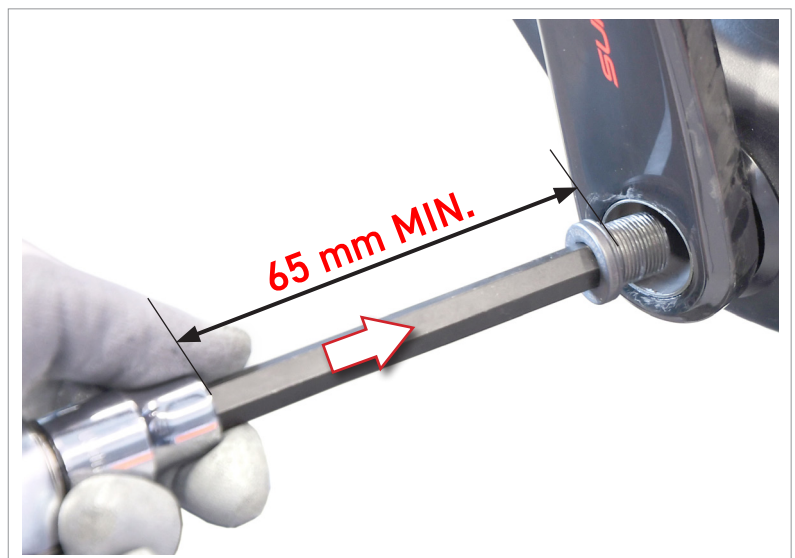
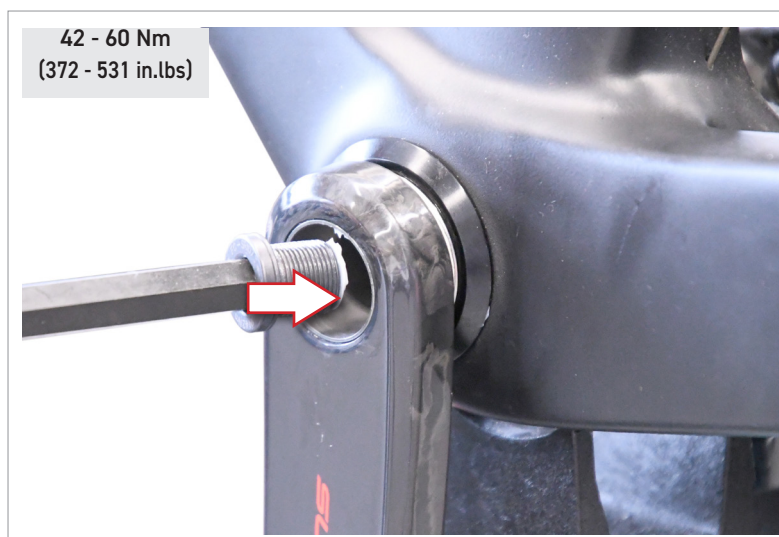

Fig.7
Fig.9
• Using the Campagnolo® UT-BB110 tool or a suitable 10 mm hexagonal insert with a length of at least 65 mm, engage the fastening screw (Fig. 7) in the semi-axle of the left-hand hand crank until it goes through the hole at the inner end of the semi-axle itself. Then engage the thread of the semi-axle of the right-hand hand crank.
- Use one hand to hold the left-hand hand crank in the correct position, tighten manually the fastening screw (Fig. 7) until it the semi-axles engage, **THEN APPLY A TORQUE WRENCH** (to the 10 mm hexagonal insert) and tighten to a torque of **42 Nm - 60 Nm (372 in.lbs - 531 in.lbs)** (Fig.9).